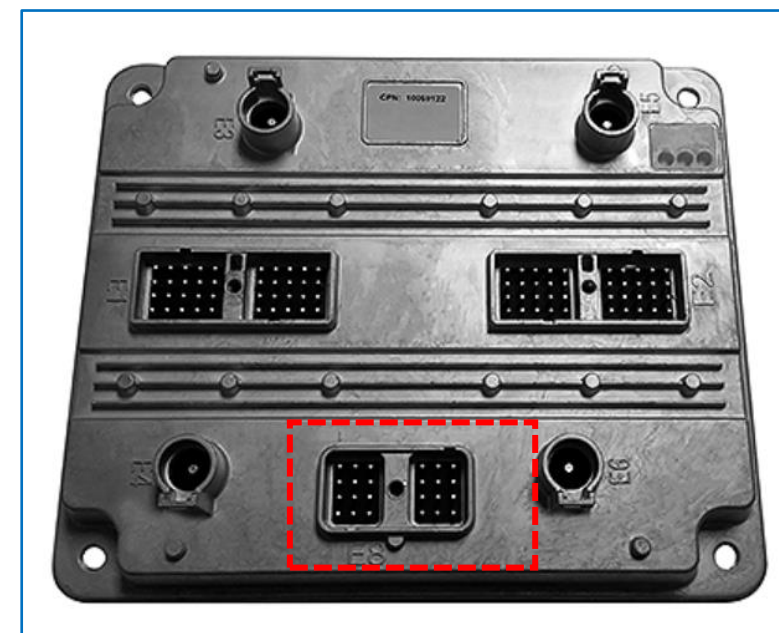

Figure 1
Step 3: Disconnect the E8 connector off each PMM with 4mm Allen wrench. Figure 1